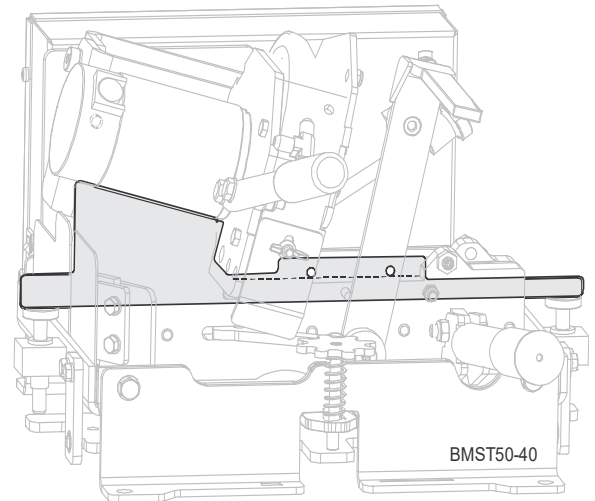

FIG. 4-2
The Sharpener & Setter is set at the factory to the proper cutting angle. If, for any reason, the angle becomes misaligned, it can be reset using the angle gauge plate SS20-999 provided. See Fig. 4-2.
5. Fit the angle gauge in until it makes contact with the motor and motor housing. See Fig. 4-2.